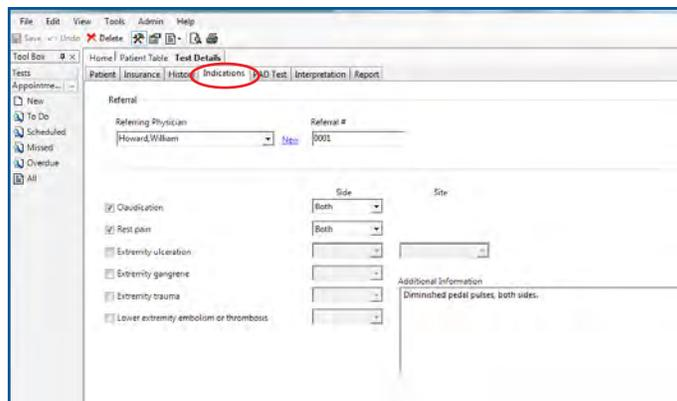

FIGURE 1.9 - Indications Tab
8. Click the Indications tab (Figure 1.9) and enter: